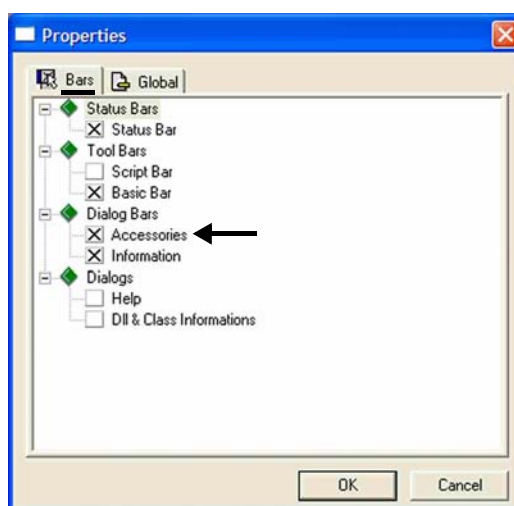

Figure 3-10. Displaying Accessories bar
1. Mark the corresponding check box in the Bars tab. See Figure 3-10.